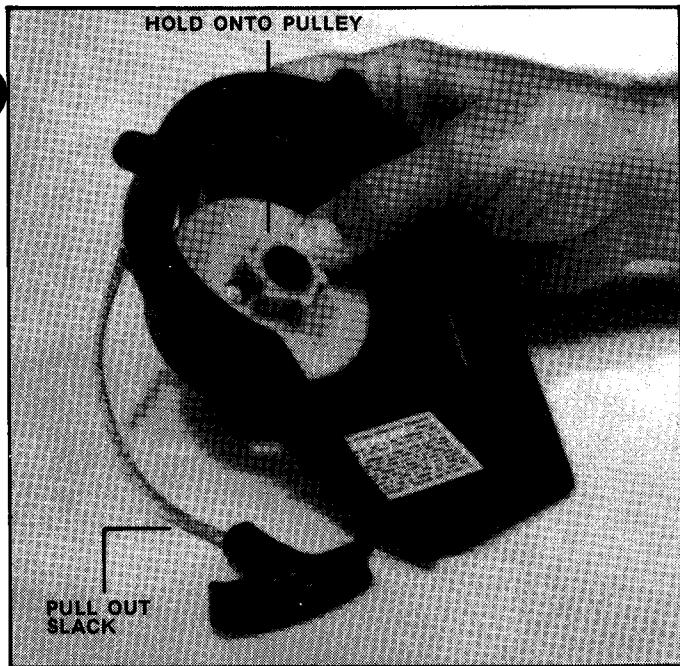

FIGURE 7.2
7.2 If repair is required, remove the screw and pulley retainer from inside the housing. Carefully lift up on the pulley. If the recoil spring is being lifted with the pulley replace the pulley to its position. Pull the rope handle out a few inches. Hold the pulley from recolling and drop the rope free. See Figure 7.2
A. If the rope does not completely retract pull the rope handle approximately 8 inches and hold the pulley to prevent it from recoiling. Pull the slack rope to the inside of the housing and wind the pulley one additional turn. Pull the slack rope to the outside of the housing and slowly release the pulley. Refer to Figure 7.2.